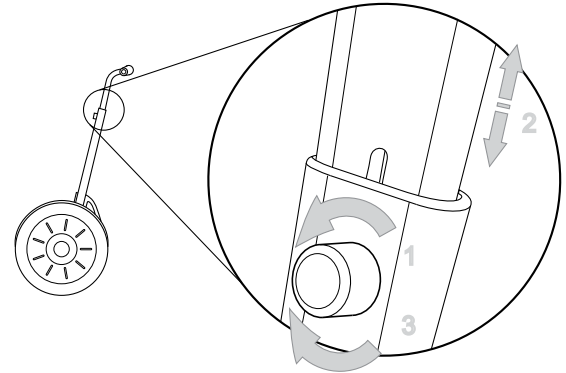

Figure 9: Adjust the Handlebar Height
1. Remove the Height Adjustment knob (see **Figure 9**, page 21) by turning the knob counterclockwise.